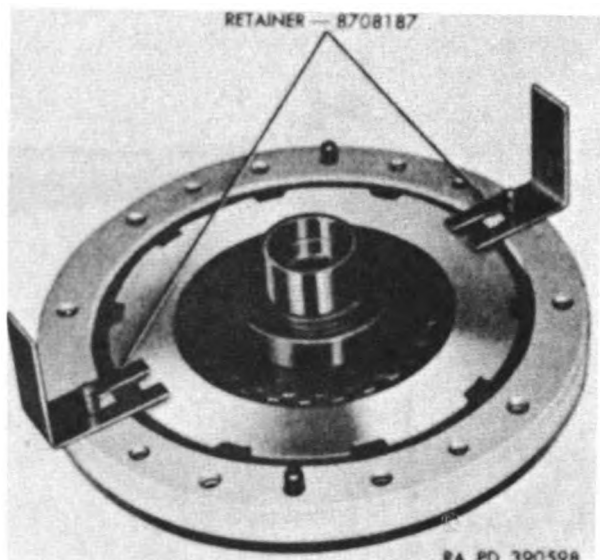

Figure 94. Retaining plates and disks in fan drive clutch outer housing during assembly.
- (4) Place clutch outer housing (D-6) on bench, with drive hub end up.
- (5) Install clutch friction disk (D-11) and clutch pressure plate (D-12) on outer housing.
- (6) Install clutch pressure disk (D-13) on clutch outer housing over clutch pressure plate (D-12), with splines in bore of pressure disk and on rim of pressure plate alined.
- (7) Install clutch disk spacer (D-14) on top of clutch pressure disk installed in (6) above.
- (8) Install remaining clutch friction disk (D-11), clutch pressure plate (D-12), clutch pressure disk (D-13), and clutch housing spacer (D-15) on clutch disk spacer in the same manner as described in (5) and (6) above.
- (9) Install two $\frac{5}{16} \times 1\frac{23}{64}$ hex-head bolts (G) through bolt holes in outer housing and spacer and secure bolts with retainers 8708187 (fig. 94).